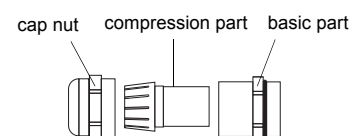

Fig. 7.9: Cable gland
- Open the cable gland of the transducer cable. The compression part remains in the cap nut (see Fig. 7.9).